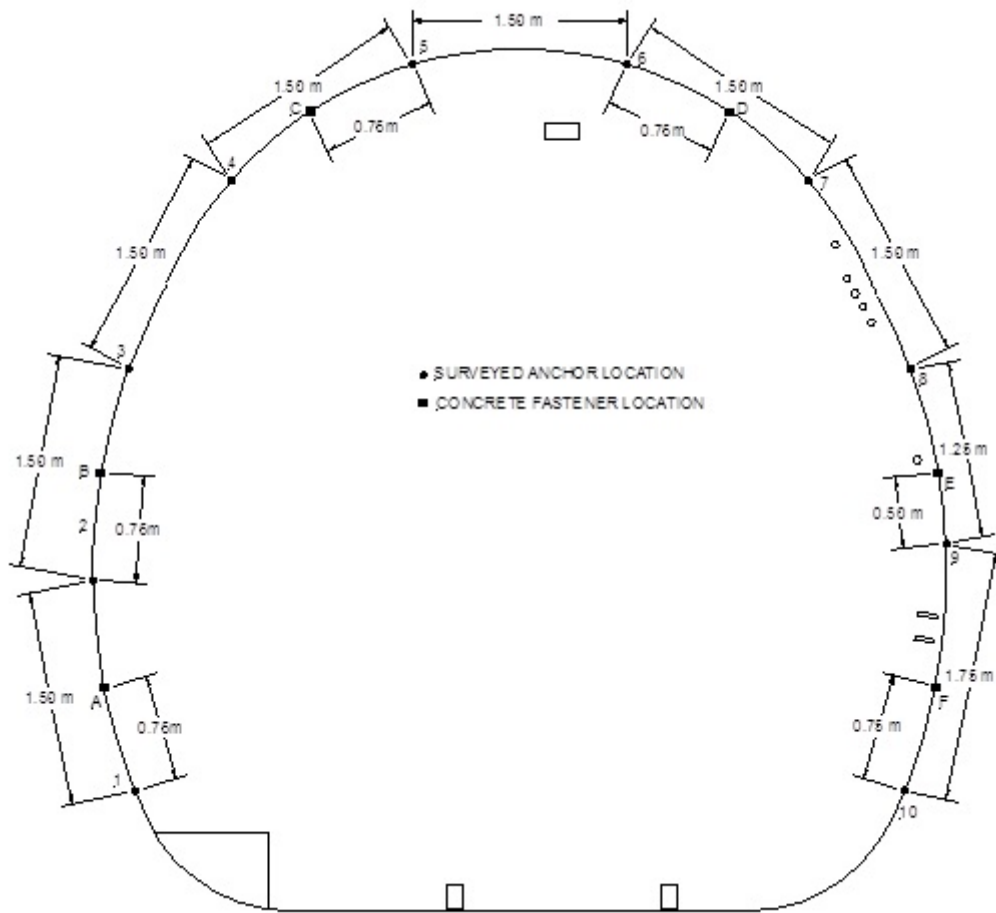

FIGURE 2-2 ANCHOR AND CONCRETE FASTENER HOLE LAYOUT
- 2 Install M10 concrete fasteners, on the scribed straight line, at the intervals shown in Figure 2-2 and outlined in Table 3-1. This allows the installation tool to use only one bolt anchor hole for two anchors because the installation tool can be spun around 180 degrees and then used to install the other anchor (e.g., Bolt Anchor B can be used to install Surveyed Anchors 2 and 3).